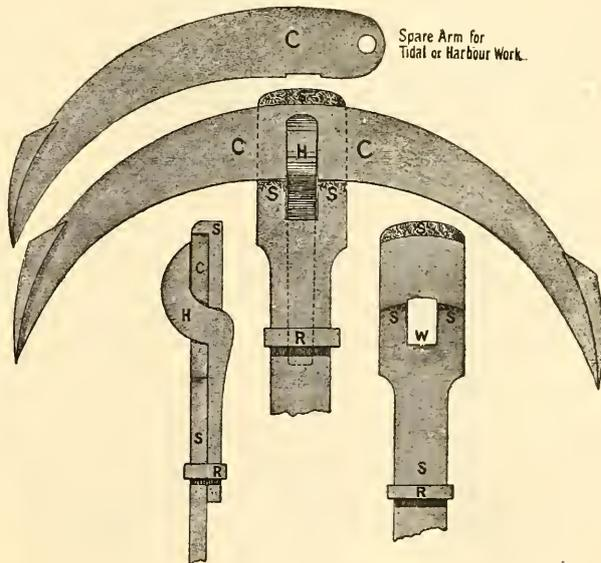

FIG. 221.
*Anchor (Bucknill's).*—Col. Bucknill, R.E., invented the following anchor for small yachts in 1890. A sample, with a span of 22in. from fluke to fluke, and weighing only 39lb., has been tried on a 10-tonner, and has given great satisfaction (Fig. 221).